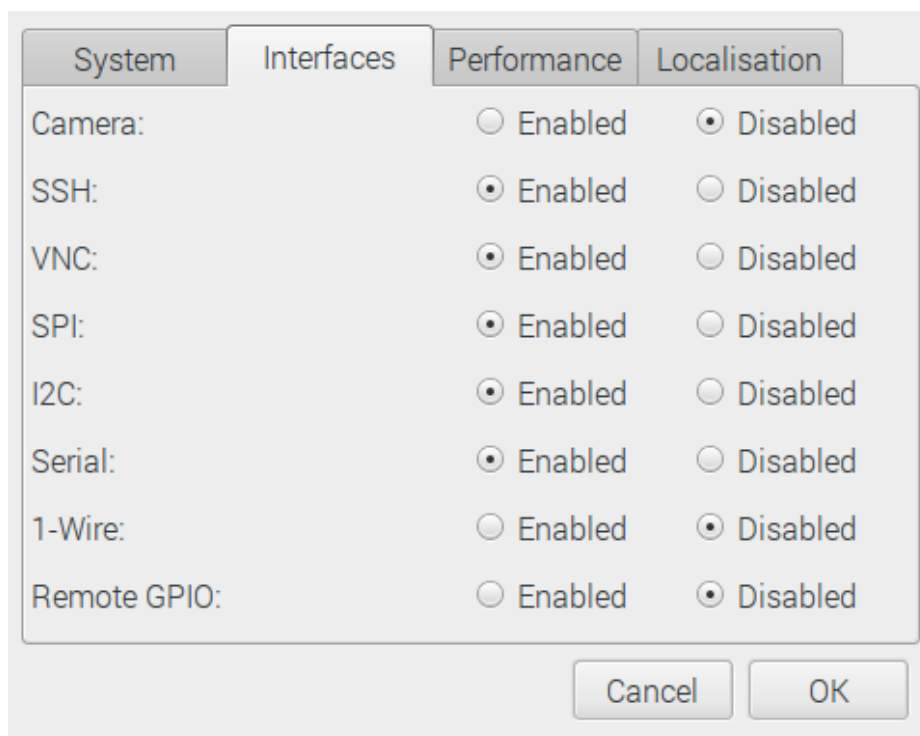

Figure 10: Raspberry Pi interface configuration
1. Next, the peripherals have to be enabled. To do so open the menu by clicking on the Raspberry Pi symbol on the left upper corner of the screen and open the **Preferences** → **Raspberry Pi Configuration** window (see figure 10). Enable the SPI or serial depending on the required interface.